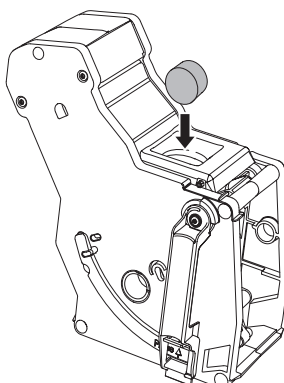

Fig. 18: Placing a cleaning tablet in the brewing unit.
4. Remove the brewing unit and clean it as described in section 8.2 Cleaning the brewing unit on page 85. Do not switch off the appliance. 5. Place a cleaning table in the brewing unit (see Fig. 18). Insert the brewing unit into the appliance as described in section 8.2 Cleaning the brewing unit on page 85. » The appliance indicates that the third programme stage is reached. » The cleaning process starts.